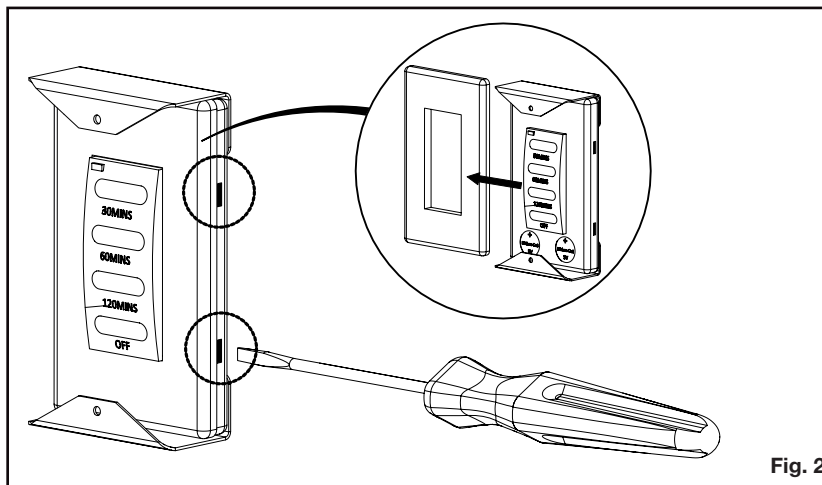

Fig. 2
1. Remove the timer faceplate from the backing plate by inserting a small screwdriver into the top or bottom slot located on the side of the timer faceplate, pop it up, and slide it off. (**Fig. 2**)